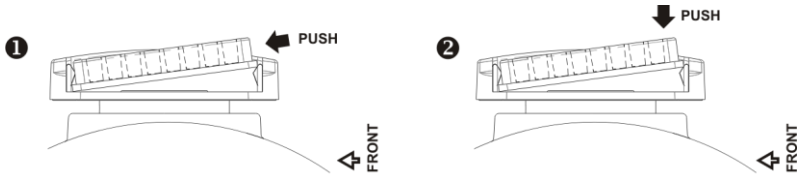

Fig. 1. Platform or plate installation
Install the platform or plate by inserting it in the universal platform/plate holder. Push the rear end of platform/plate into spring clamps (fig. 1/❶) and finish installation by pushing from the top (fig. 1/❷).